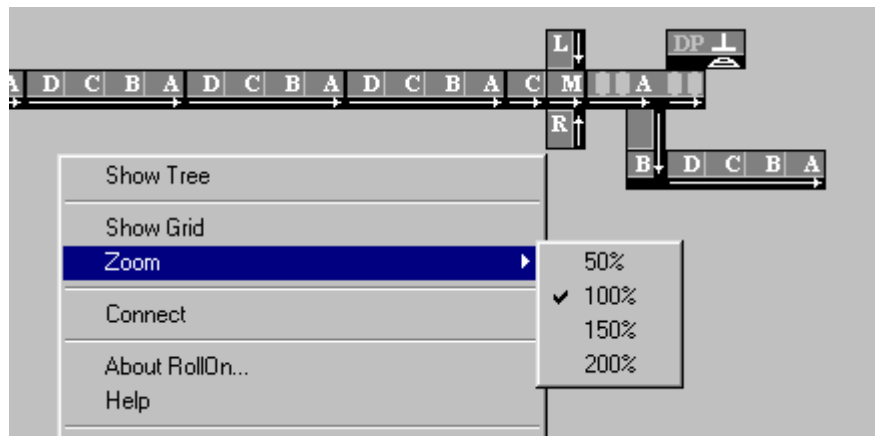

Fig. 4.38
- Approach **Zoom** item to open the percentage drop-down list – Fig. 4.38.